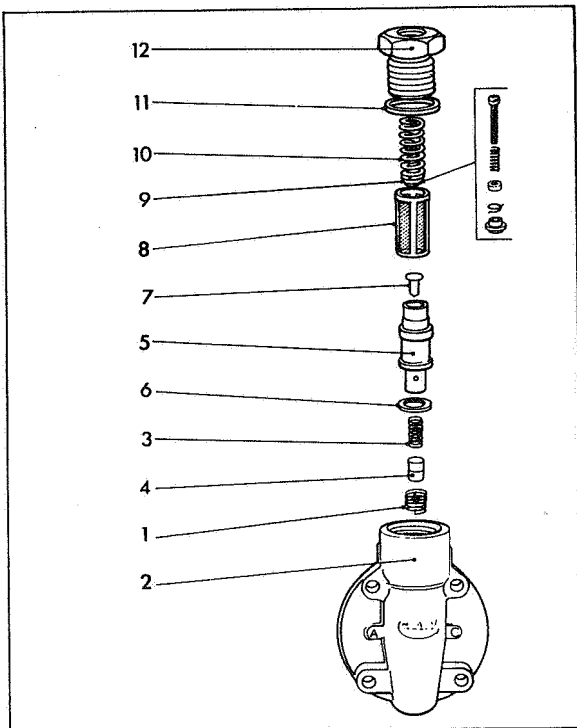

Fig 25 End plate assembly
Place piston retaining spring (1) Fig 25 into end plate (2). Insert first, the piston regulating spring (3), then the regulating piston (4) into the small diameter end of the regulating sleeve (5) and assemble a new sleeve washer (6) to the same end of the regulating sleeve. Insert the small end of the spring peg (7) into the large diameter end of the regulating sleeve and slide the complete assembly into the end plate, spring peg uppermost. Assemble filter (8), transfer pressure adjuster assembly (9), sleeve retaining spring (10), then screw in inlet connection complete with washer (11 & 12).